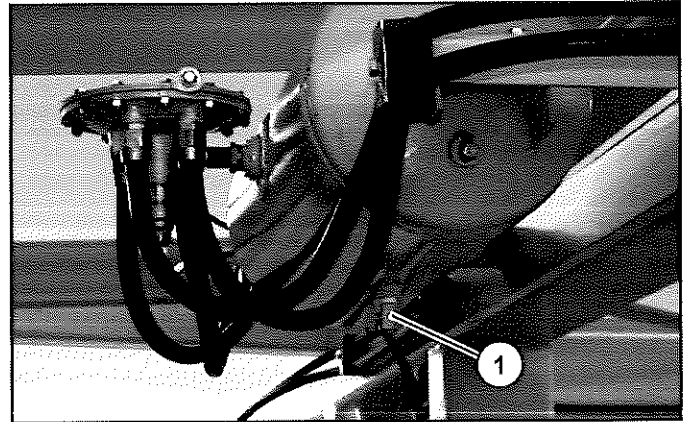

Figure 26
2. Release the air brakes. Do this by adjusting the air valve (Item 1) (Figure 26) on the bottom of the tank. The air brakes cannot be applied when raising and lowering the conveyor.